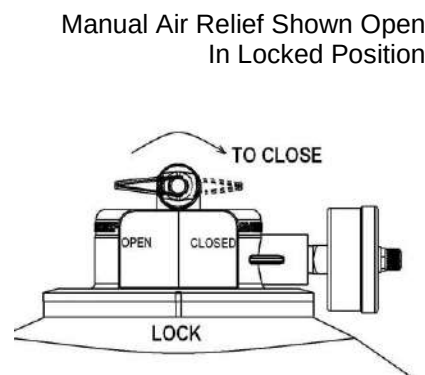

Figure 2
1. Use ONLY Hayward clamp system components; DEX2421KIT clamp system, DEX2421J2 nut/bolt assembly, DEX2422Z2 metal reinforced seal. Non-Hayward clamp components may fail in use and cause explosive component separation. Verify that upper and lower filter bodies are properly secured with the filter body clamp. Never rely on hand tightening the clamp nut to the clamp bolt. Using a $\frac{3}{4}$ " socket on a torque wrench, torque clamp nut to clamp bolt to 150 inch-lbs. Verify that the filter manual air relief body is in the LOCK position, and no filter components are missing, damaged or not genuine Hayward components. (See Fig 2)
4. Place the manual air relief valve in OPEN position. (See Fig 2)